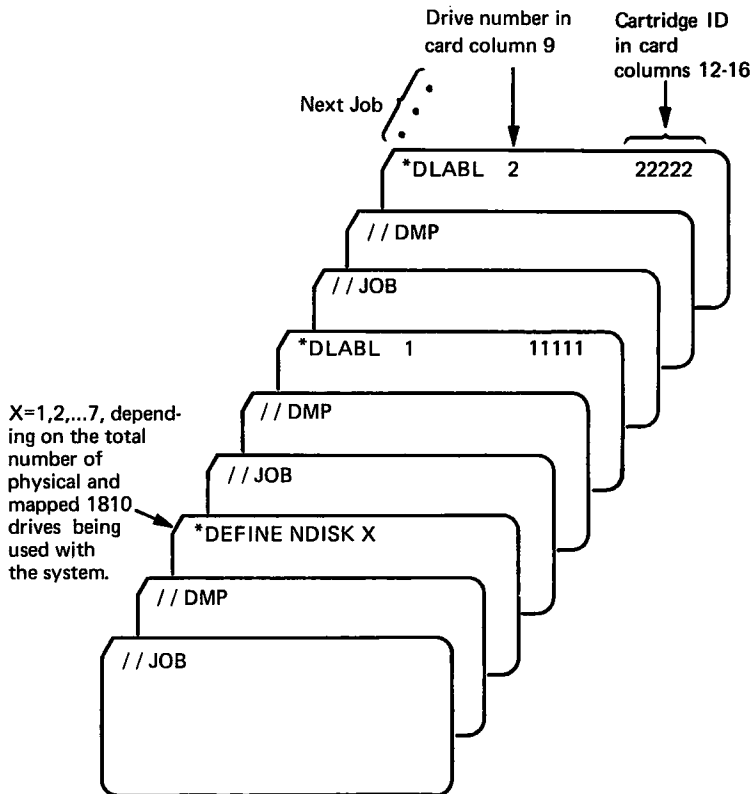

Figure 2. Define Number of Drives and Label Disk Cartridges
In this phase you will define the number of drives in your system, label those drives and define your main-storage layout. The sequences of control cards used to carry out phase 4 operations are illustrated in Figures 2 and 3. Note that each job for each drive requires a separate // JOB and // DMP card; the // JOB statements don't contain drive labels, because the drives haven't been initialized yet. Refer to IBM 1800 Multiprogramming Executive Operating System Programmer's Guide, Order Number GC26-3720, for details on how to complete and use each of these control statements.
2. Place the deck of control cards to define and label disks and to define your main-storage layout in the 1442 hopper in the sequence illustrated in Figures 2 and 3.